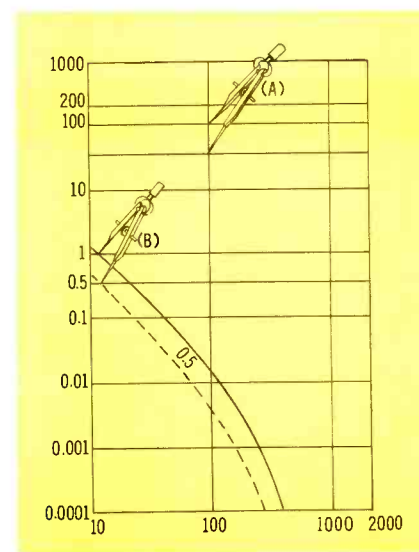

Fig. 3. Field intensity graph showing desired contour below 100 mv/m.
In the foregoing examples, we read **up** for radiations of 100 mv/m or more. However, for strengths less than 100 mv/m, you must read **down** from the conductivity line to the desired contour (Fig. 3). By placing one leg of the divider on the base line (100 mv/m) and the other leg on the pertinent radiation, 60 uv/m for example (A), you will move the ground conductivity line **downward** and obtain a distance to the desired contour **less** than that obtained with 100 mv/m (B). This is an easy check on the accuracy of the computation. If the graphical distance to the desired contour is more than that to the same contour with 100 mv/m, the computed